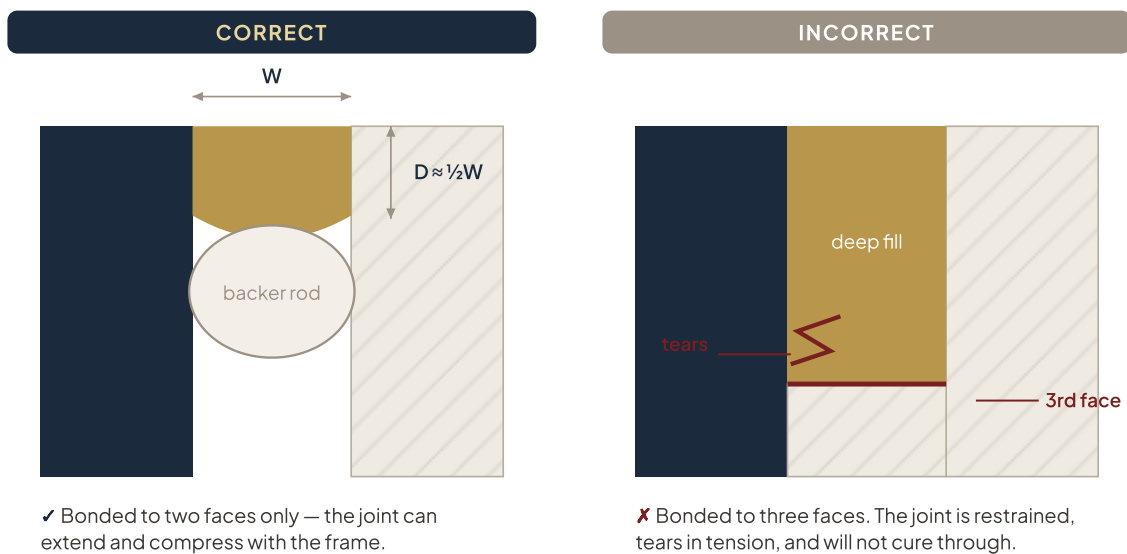

FIGURE 11 — PERIMETER JOINT
- **Use a backing** (Figure 11). Apply the sealant against a firm backing — a closed-cell, oversized circular foam backer rod — so it is forced against both joint faces. The sealant must not adhere to the backing, because three-sided adhesion prevents the joint from moving and is a standard cause of cohesive failure.